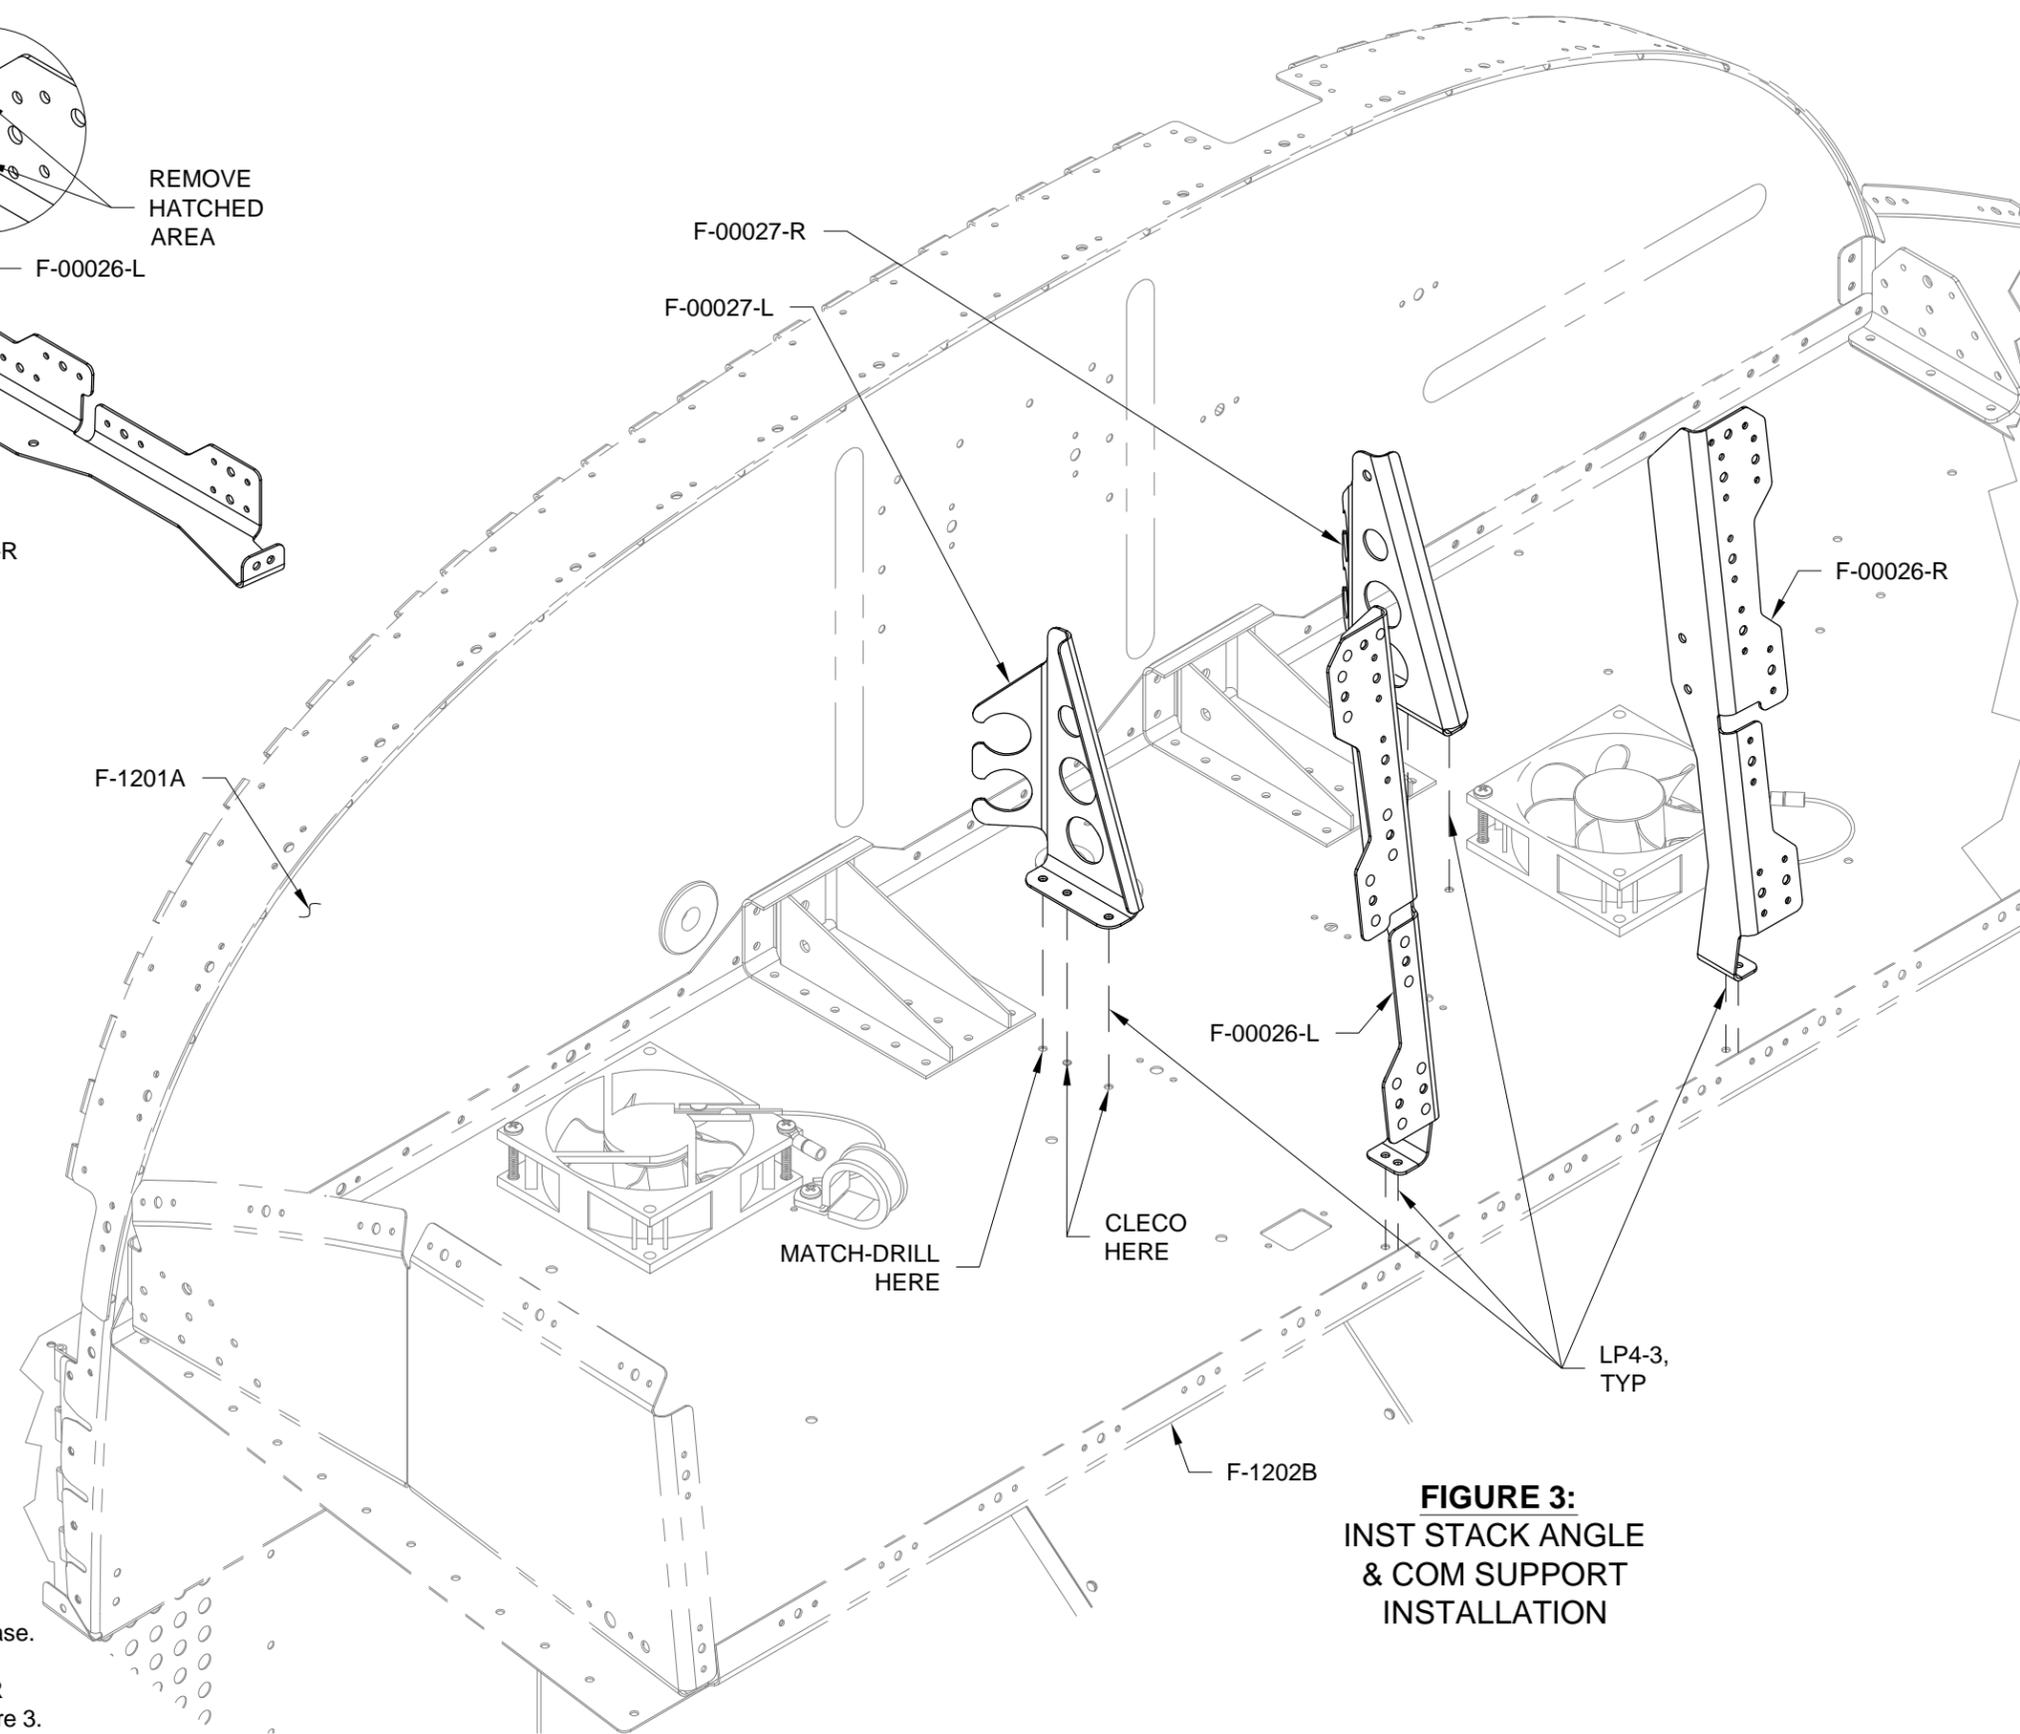

FIGURE 3:
Step 4: Cleco the F-00027-L & -R Com Supports to the F-1202B Panel base as shown in Figure 3.
Match-Drill #30 the most forward hole in each com support into the panel base as shown in Figure 3.
Step 5: Attach the F-00026-L & -R Inst Stack Angles and the F-00027-L & -R Com Supports to the F-1202B Panel Base using the rivets called-out in Figure 3.